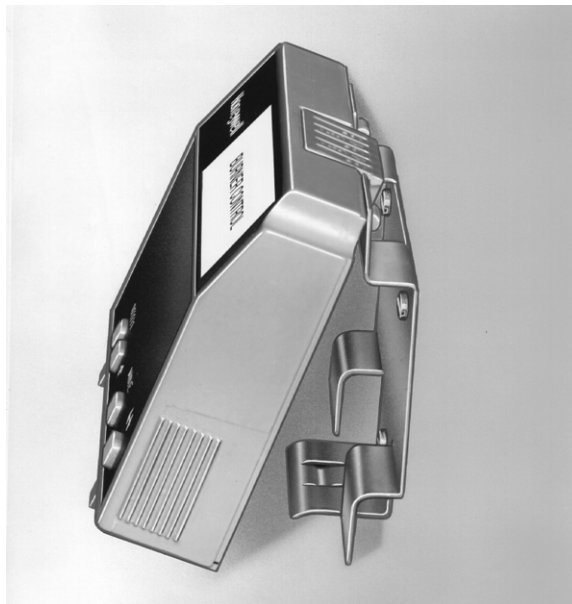

Fig. 4. Remote mounting of a Keyboard Display Module using a 203765 Remote Display Mounting Bracket.
3. Mount the 203765 Remote Display Mounting Bracket by securing the four no. 6 screws (M3.5 x 0.6). See Fig. 4.